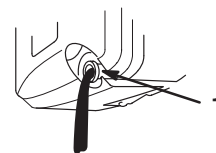

Figure 23
5. Tip the lawn mower onto its *left* side, allowing the oil to drain into the drain pan (Fig. 23).